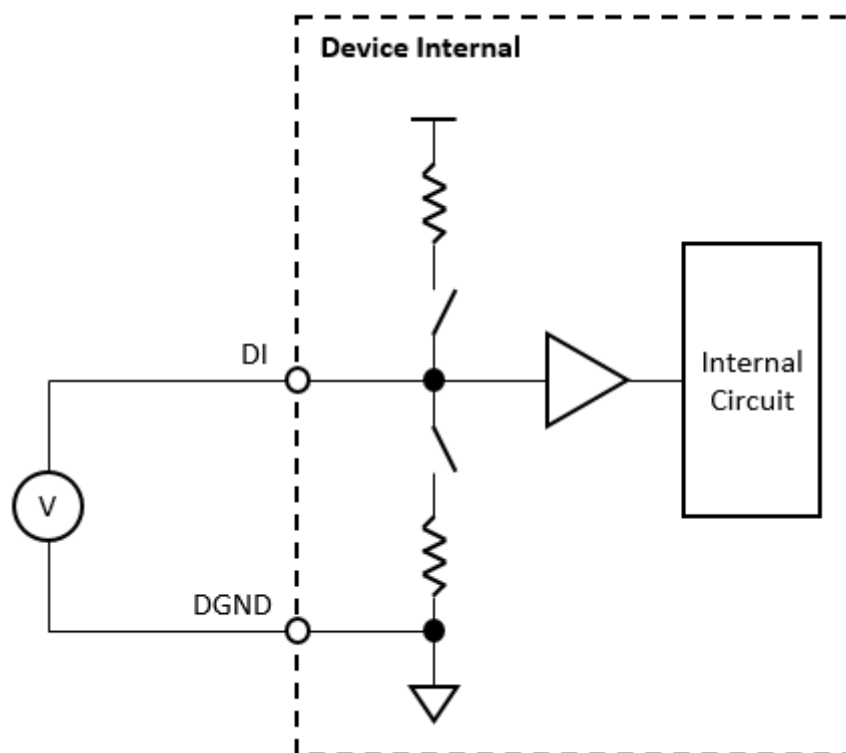

Figure 3.3 Digital input signal connection
A digital input/output (DI/O) channel can be configured by software to perform digital input measurement, which is the power-on default configuration, or digital output generation. When performing digital input measurement, the voltage logic level between the digital input (DI) terminal and the digital ground (DGND) terminal is measured. To prevent undetermined or fluctuating results when input is floating, the digital input channel can be configured as internally pulled-up or pulled-down by software. This is shown in Figure 3.3.